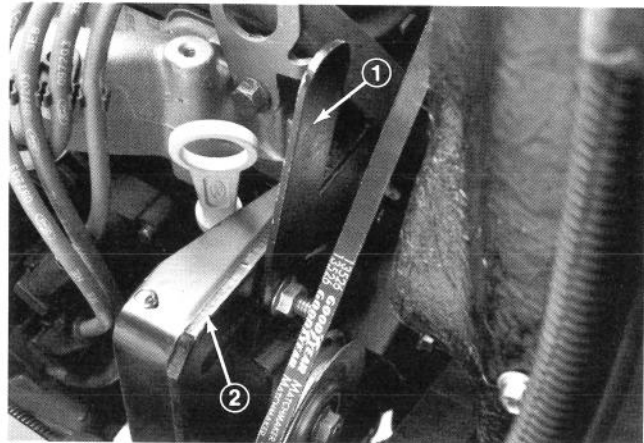

Figure 39
A new cooling fan belt (Fig. 39) is to be tensioned to 45 lb. A used belt is to be retensioned to 28 lbs.
1. To adjust belt tension, loosen upper and lower nuts securing idler arm to front engine mount (Fig. 39).